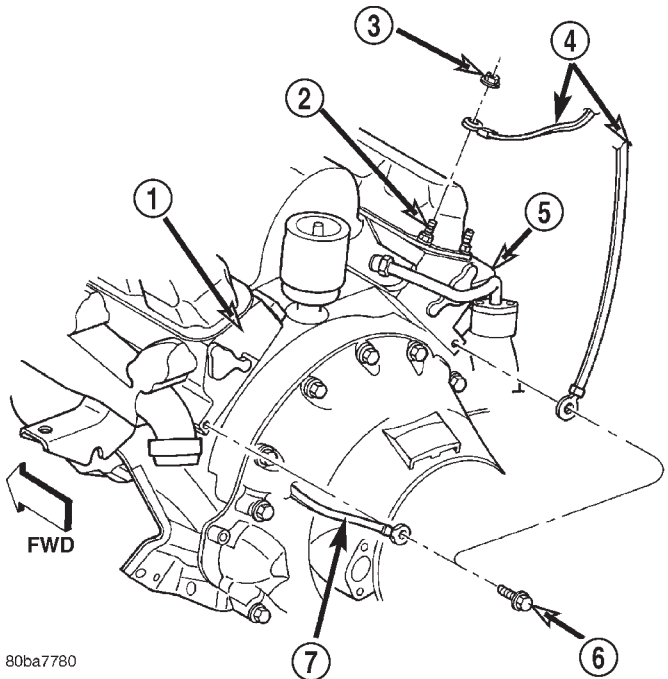
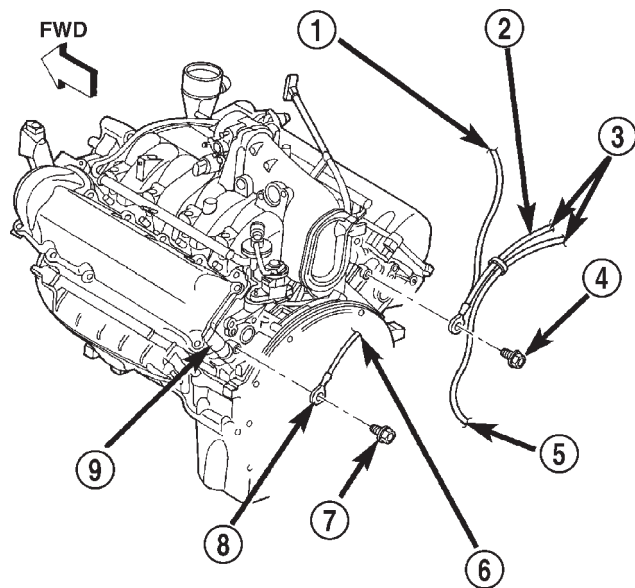

Fig. 18 Engine-To-Body Ground Strap Remove/Install - 5.2L & 5.9L Engine Only
Fig. 17 Engine-To-Body Ground Strap Remove/Install - 4.7L Engine Only
(3) Remove the screw that secures the left engine-to-body ground strap eyelet terminal to the rear of the left cylinder head (Fig. 17) or (Fig. 18).
(4) Remove the screw that secures the right engine-to-body ground strap eyelet terminal to the rear of the right cylinder head (Fig. 17) or (Fig. 18).
(7) On 5.2L and 5.9L engines only, remove the nut and washer that secures the right engine-to-body ground strap eyelet terminal to the inboard rear valve cover stud of the right cylinder head (Fig. 18).
(8) Remove the engine-to-body ground strap(s) from the engine compartment.